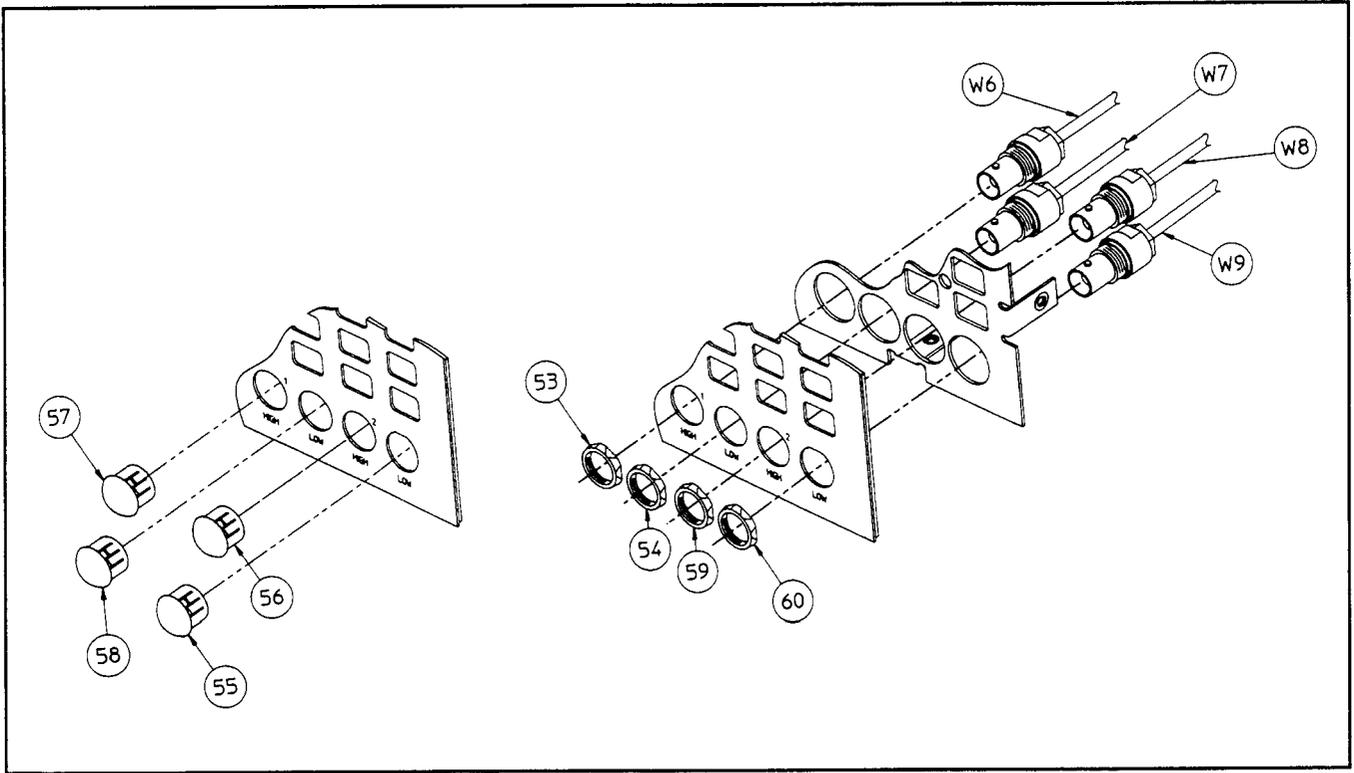

Figure 7-1. Front Panel Output Hardware
1. Refer to figures 7-1, 7-2 and 7-3. Remove the BNC connector ends from the front panel one at a time and insert them into the corresponding openings in the rear panel.
1. Refer to figures 7-1, 7-2 and 7-3. Remove the BNC connector ends from the rear panel one at a time and insert them into the corresponding openings in the front panel.